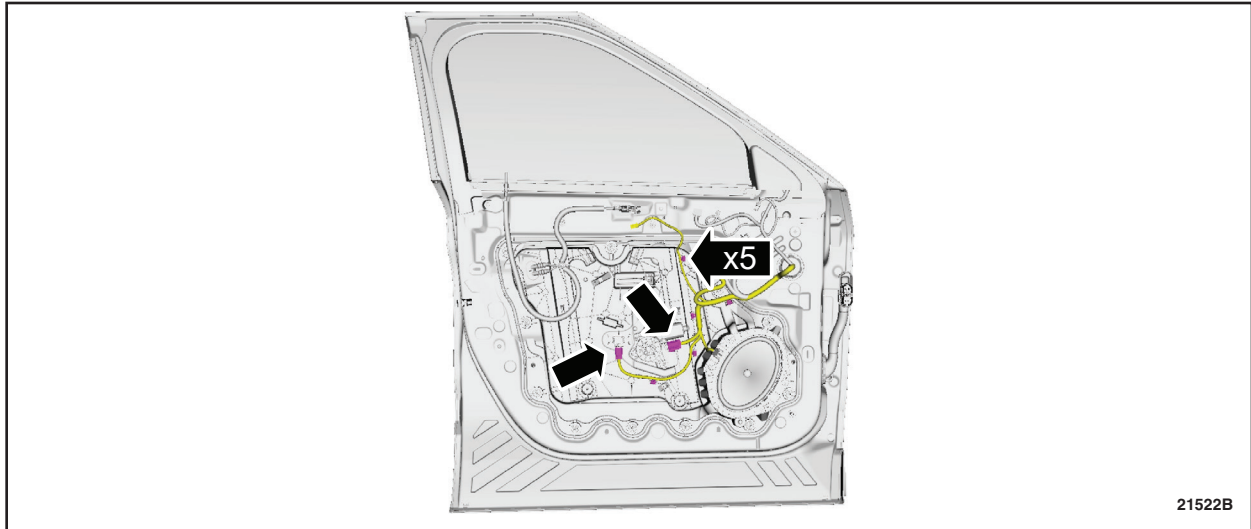

**FIGURE 18**
3. Remove the Left Hand (LH) and Right Hand (RH) Front Door Trim Panel. Please follow the WSM procedures in Section 501-05.
4. Remove the front door window glass release access covers. See Figure 18.